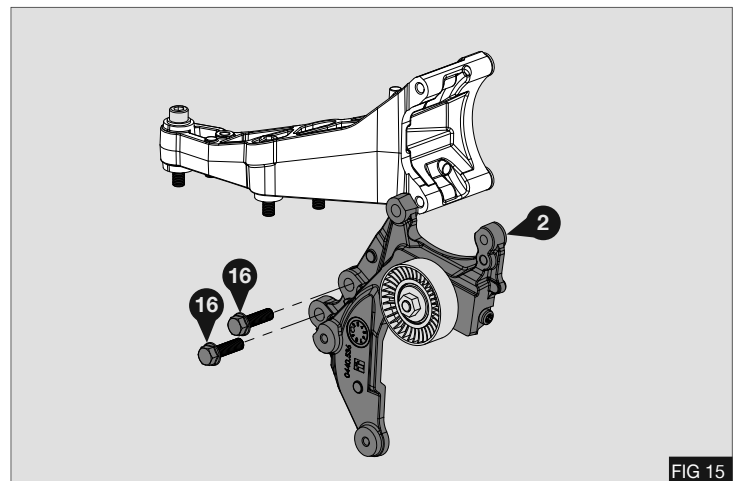

FIG 15
- Install the adjuster bracket (2) to the side of the engine using 2x M10x35 bolts (16). Tighten the 2x bolts hand tight so that they only allow **up and down** movement of the bracket - Fig 15